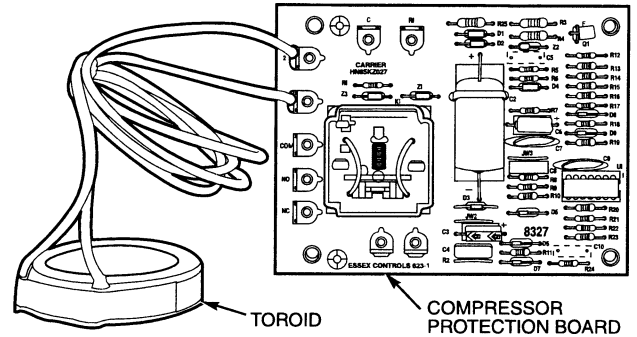

Fig. 13 — Compressor Protection Control System Module — Sizes 040-110
Compressor Protection Control System (CPCS [CPCS — Standard on Sizes 080-110 and Optional on Sizes 040-070]) or Control Relay (CR) — 30GTN,R and 30GUN,R 040-110 — Each compressor has its own CPCS module or CR. See Fig. 13 for CPCS module. The CPCS or CR is used to control and protect the compressors and crankcase heaters. The CPCS and CR provide the following functions: